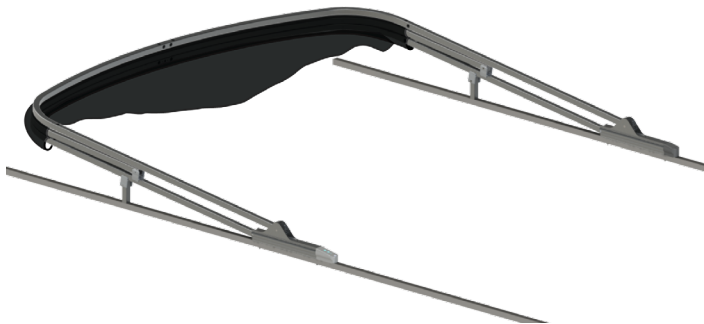

Fig.78
4. Place the rear frame and canvas in the down position (Fig.78).